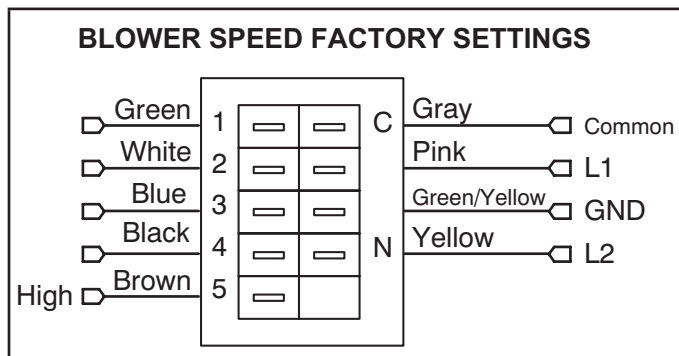

FIGURE 9
- 3 - Use FIGURE 9 to determine the factory-set blower speed.
- 4 - Use direct drive blower tables, the measured static pressure and the factory-set blower speed to determine CFM. If CFM is lower or higher than the design specified CFM, move the leads as shown in FIGURE 9.